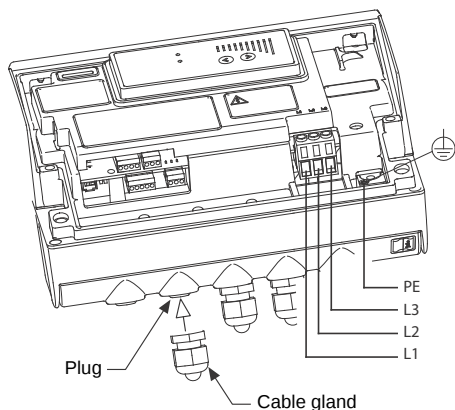

Fig. 31 Removing the plug and connecting cable gland to the terminal box
- a. Remove the plug from each MLE terminal box with a flat head screw driver. See fig. 31.
- b. Screw a new cable gland into each MLE terminal box with a crescent wrench. See fig. 31.
- i. Tighten the cable gland cap to secure the cable. See fig. 31.